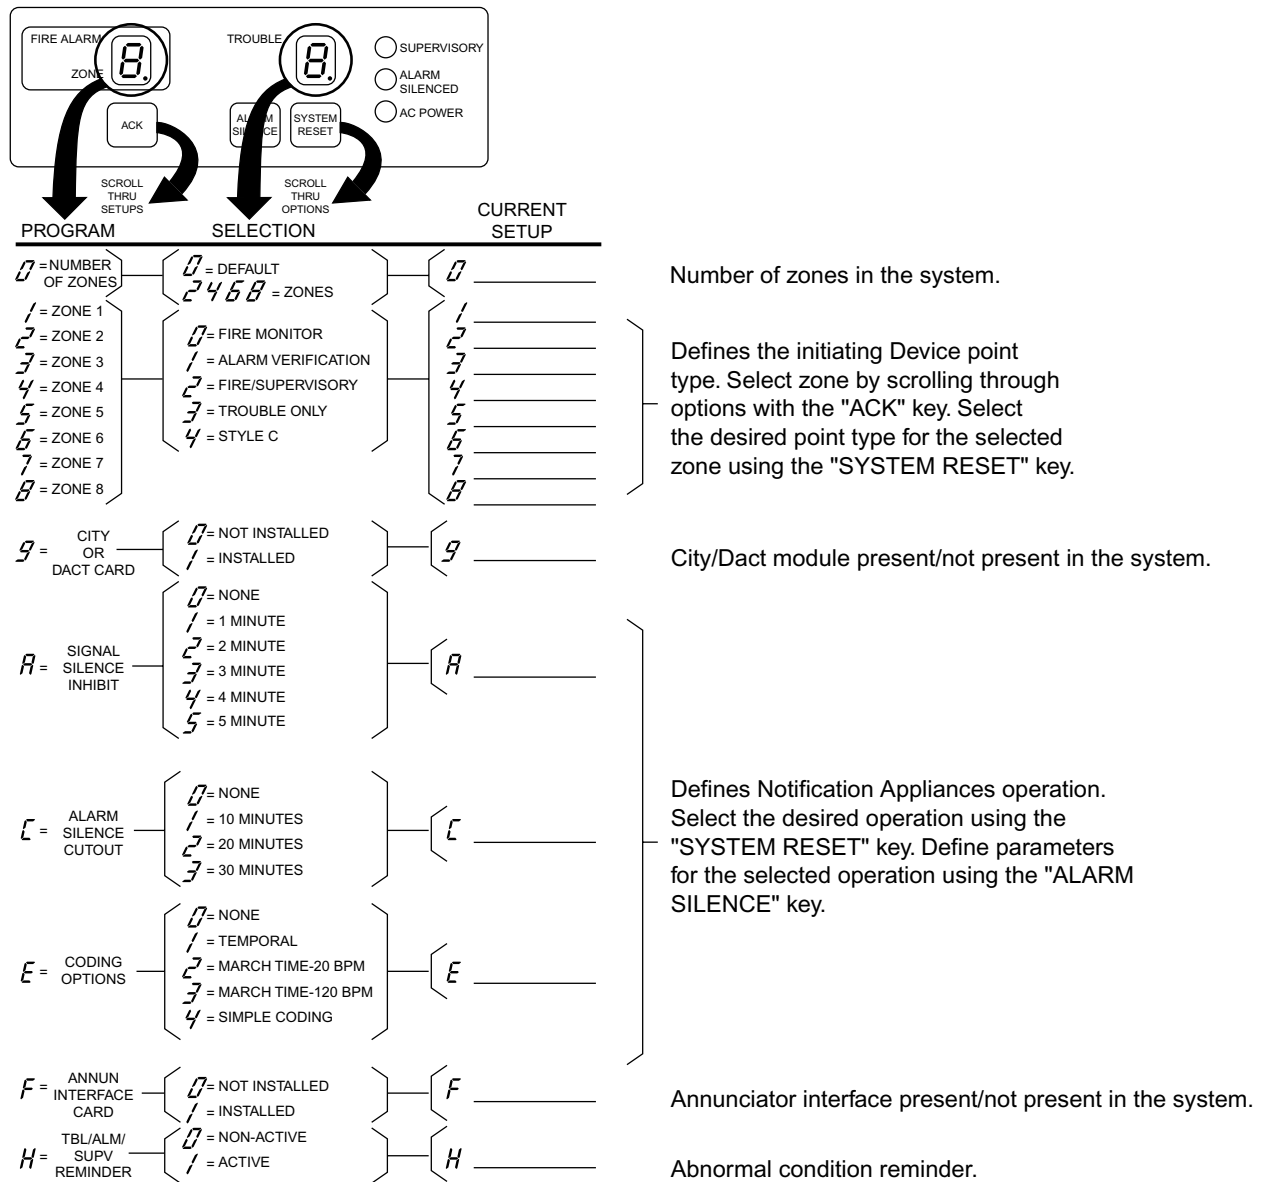

Figure 4. 4004 Programming Selections
The program switch is ignored if there are alarm conditions in the panel. Entering the program mode causes trouble indicated by a lowercase “h” on the yellow “TROUBLE” display. The user interface panel “ACK” key acknowledges the program mode trouble and silences the tone-alert. The “ACK” key selects configuration number and the “SYSTEM RESET” key selects the configuration option. Refer to Figure 4 for complete system programming configuration options.
2. Refer to Figure 4 for the following programming operation: